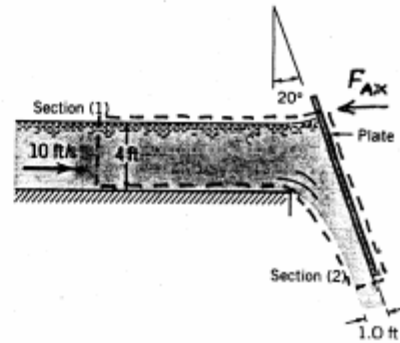

FIGURE P5.48
5.48 Water flows from a two-dimensional open channel and is diverted by an inclined plate as illustrated in Fig. P5.48. When the velocity at section (1) is 10 ft/s, what horizontal force (per unit width) is required to hold the plate in position? At section (1) the pressure distribution is hydrostatic, and the fluid acts as a free jet at section (2). Neglect friction.